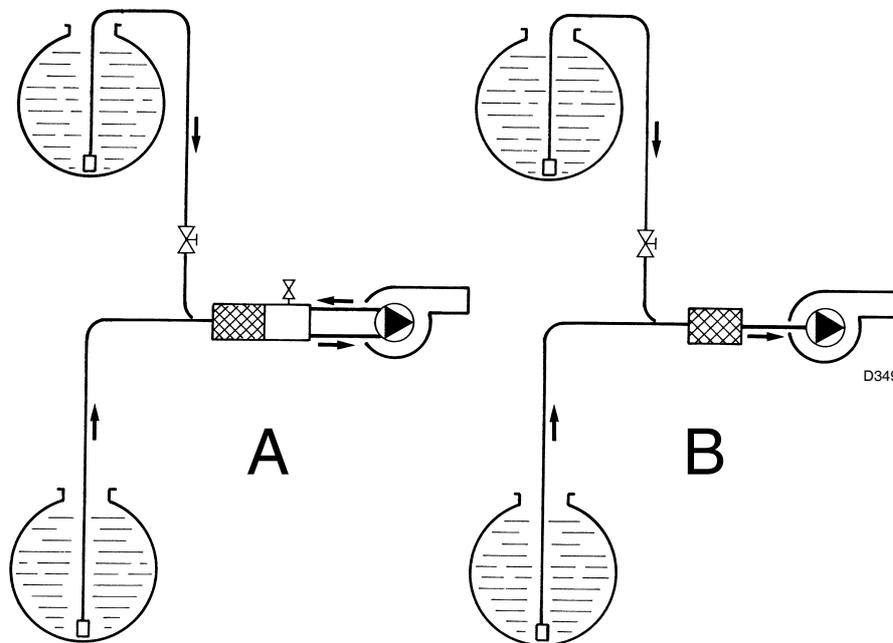

Fig. 19
- Pump external bypass (A, Fig. 19) (recommended)
- Pump internal bypass (B, Fig. 19)
- The pump is equipped with a bypass that connects return line and the suction line. The pump is installed on the burner with the bypass closed by screw 6) (Fig. 31 on page 29). When single-pipe fuel supply systems without degaussing units (Fig. 19 on page 21) are used, this screw, accessible from the connector 2), must be removed. In this way, the excess in the delivery discharged by the pressure regulator into the return line passes into the suction line. The pump will break immediately if it is run with the return line closed and the bypass screw inserted.